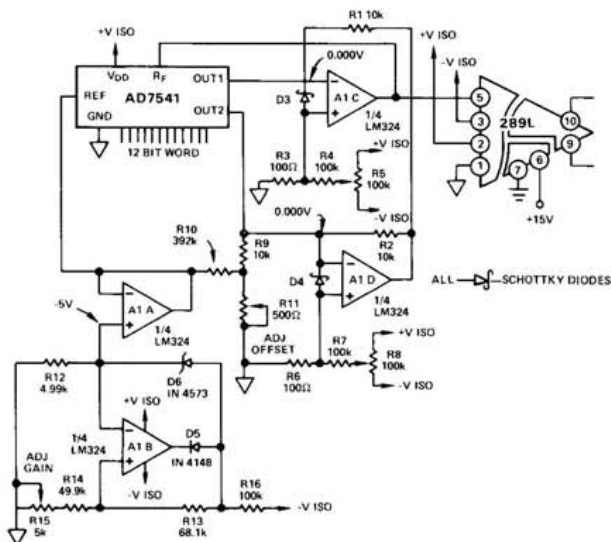

Figure 16. 12-Bit Isolated Voltage DAC
**Isolated DACs:** Figure 16 shows a 12-bit DAC with  $\pm 5V$  isolated output. A buffered  $-5V$  reference voltage is provided to the DAC by A1a, A1b and associated circuitry. The digital input causes a proportion of DAC current to flow into OUT1 of the DAC. The remaining DAC current flows into OUT2. Current flowing into OUT1 causes positive voltage at the output of A1c. Current flowing into OUT2 causes a positive voltage at the output of A1d, which in turn causes a negative voltage at the output of A1c. Voltage appearing at the output of A1c is reproduced at the output of the model 289. R5 and R8 must be adjusted to produce less than 0.5mV at OUT1 and OUT2 of the DAC respectively. R15 may be used to adjust gain and R11 to adjust offset with the binary code 1000 0000 0000 to zero.